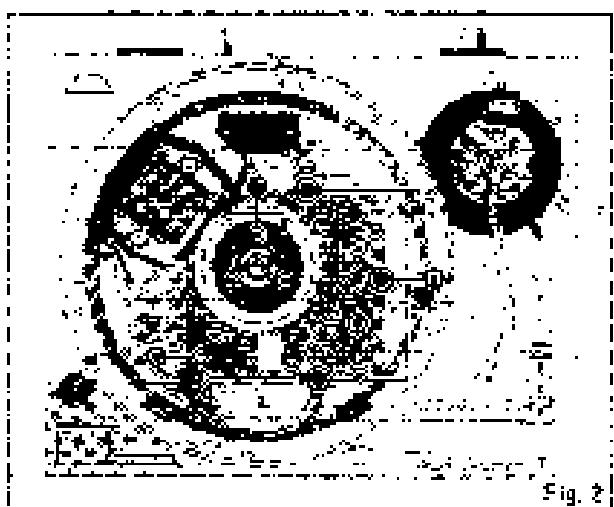

Fig. 2
4. Remove 3 connectors ② and 2 read wires ③ from cover transformer as shown in Fig. 2.
5. Remove 3 screws ④ of the drive circuit board and 3 screws ⑤ of the stator frame cover as shown in Fig. 2.